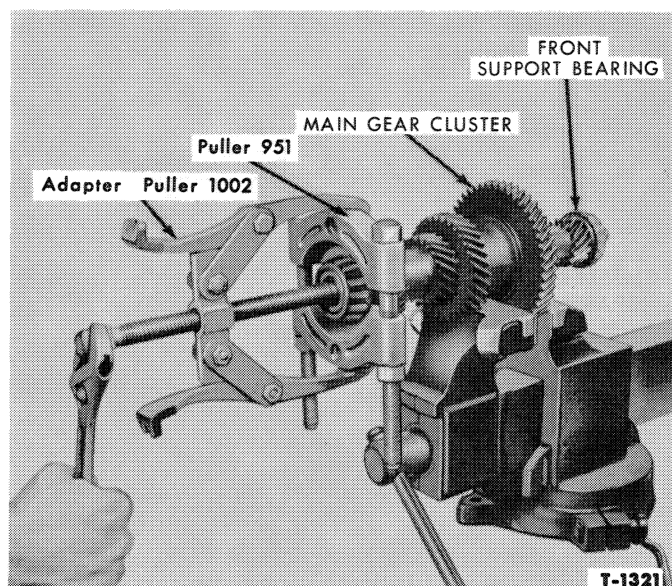

Figure 20—Removing Main Cluster Gear Bearings
1. Remove the front and rear bearings with Pullers 951 and 1002 as shown in Figure 20.